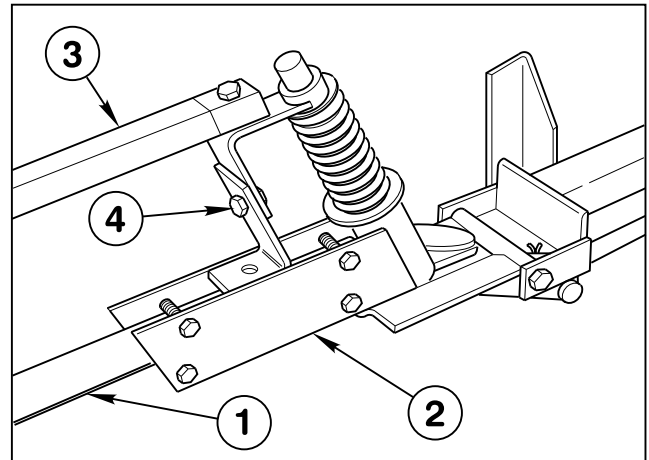

FIG. 7
10. Insert the plugged end of an Extension Boom Pipe into the Pivot Assembly and secure with four (4) 1/4" x 1-1/4" cap screws and lock nuts. See FIG. 7. Repeat on the opposite side to assemble the other Extension Boom.